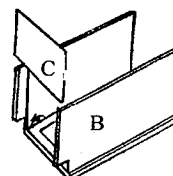

Figure 4
4. Install the bottom (Figure 4): gently spread side panels and insert bottom (C) into the grooves of side panel (B) until it touches the face frame (A). Align it and lock each cam lock.